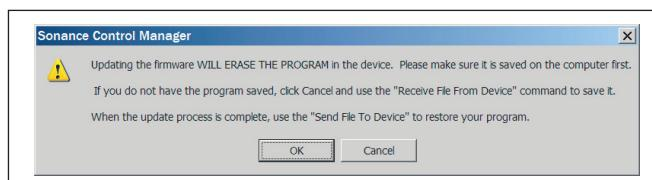

Figure 31:
5. The warning screen shown in *Figure 31* will appear: